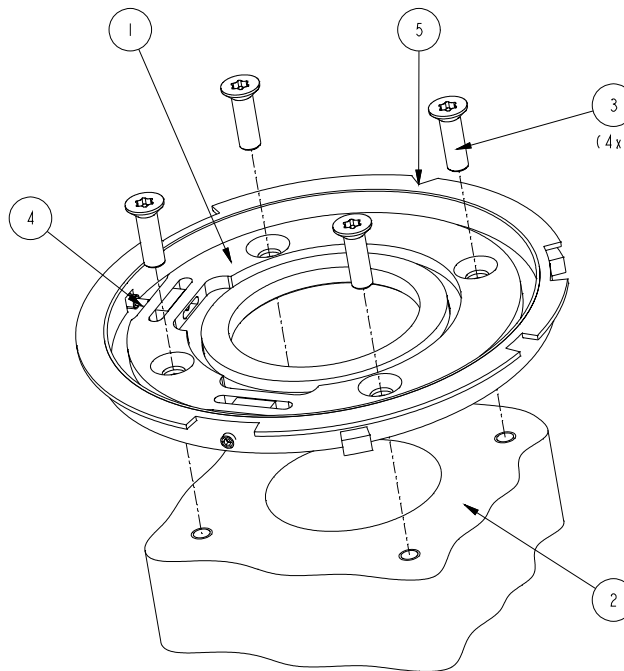

Figure 2: Mounting the coupling flange assembly
- Place the coupling flange (item 1, Figure 2) on the X-Ray tube housing (item 2, Figure 2), positioning the 0° notch (item 5, Figure 2) to the rear of the X-Ray tube housing, and secure it with the four countersunk screws M6 x 25 mm, item 3, Figure 2. (see note above)